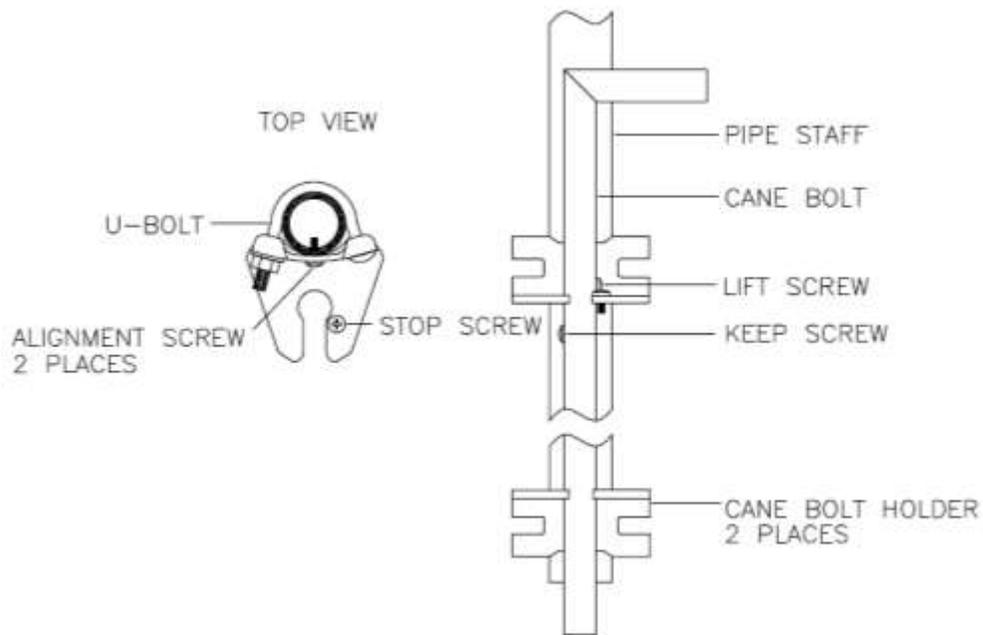

FIGURE 5
6. Assemble the cane bolt holders (See Fig. 5). All but one of the pipe staff will have pre-drilled alignment holes marked in red. Line up the pre-drilled holes on the cane bolt holders with the pre-drilled holes on the pipe staff. Fasten the two cane bolt holders with (2) #10-24 x 1/2 screws to the pipe staffs, (the top cane bolt holder has a stop screw and the bottom does not. Use the U-bolts to secure the brackets to the pipe staff. Remove the keep screw from the cane bolt, slip the cane bolt into the holders and reinstall the keep screw, locking the cane bolt into the holder.
7. Lock the door down (See Fig. 5). Pull the RH side of the door past the LH side of the pipe staff and lock the two pipe staff together. The two leading edge pipe staffs have a hole in the center of the pipe approximately 4 or 6 feet up which is used to lock the two pipes together. As you are looking at the door pull the RH side of the screen past the left hand side and lock the two pipes together using the locking pin